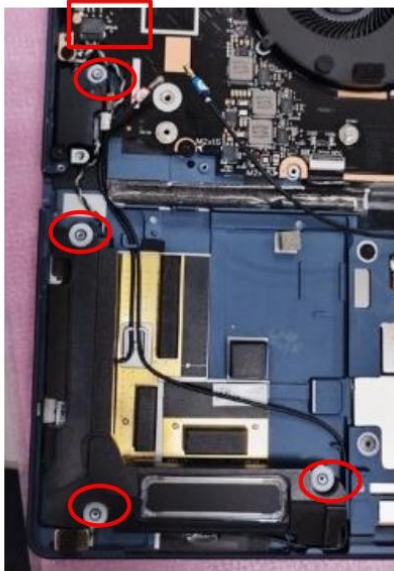

Figure 1
1. Remove the Speaker screw M1.6*2 (6052B0842101)*4 (Figure 1).